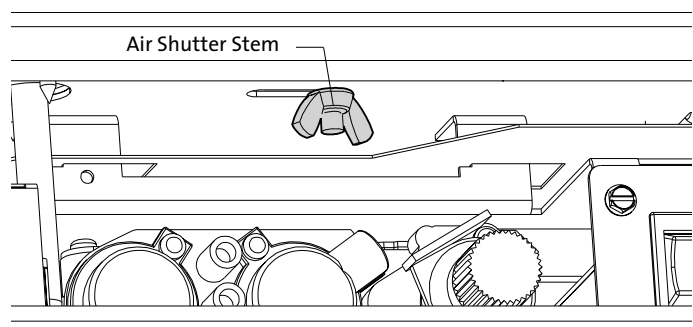

Figure 14. Air Shutter Stem location above valve.
4. Loosen the Air Shutter stem wing nut, located under the firebox. Slide the shutter stem all the way to the left. See fig. 14.
4. Attach the high altitude conversion sticker provided to the rating plate on the appliance. See figure 14.